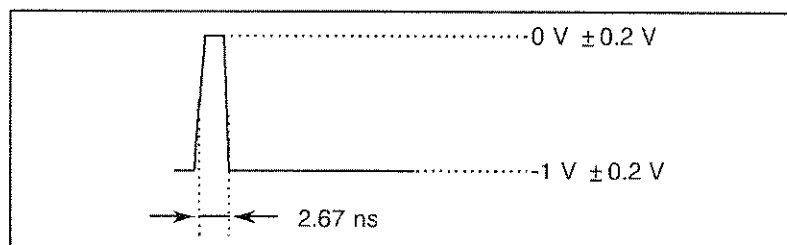

Figure 8-5 PATTERN TRIGGER Output Waveform ($f = 12000 \text{ MHz}$, 5 ns/div)
- (7) Confirm that the waveform is a rectangular wave as shown in Figure 8-5. The pulse width is expressed in the following equation: